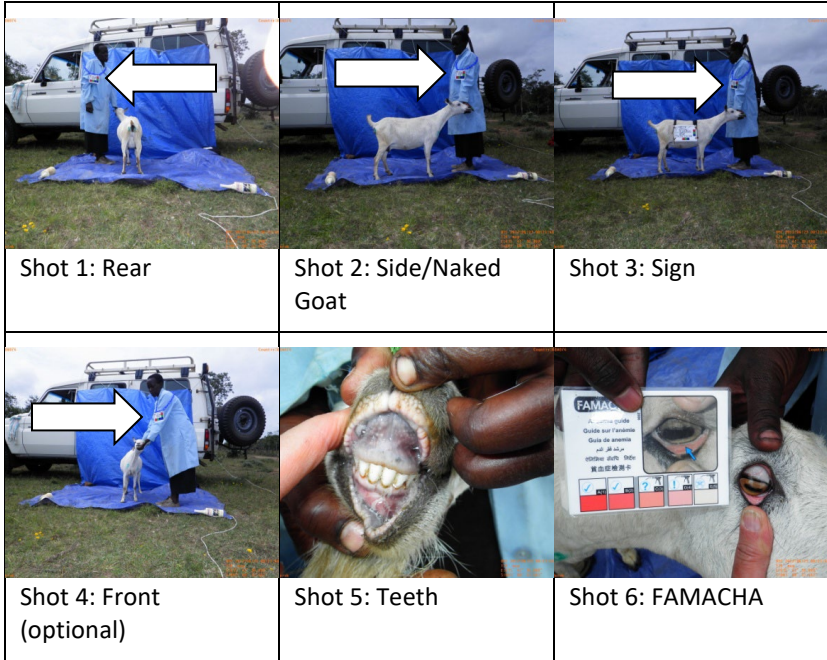

Figure 7. Photo series of one sample goat in one location shot in Kenya, note position of small sign (arrows) in all distance photos.
- a. Photo Series (**Figure 7**).